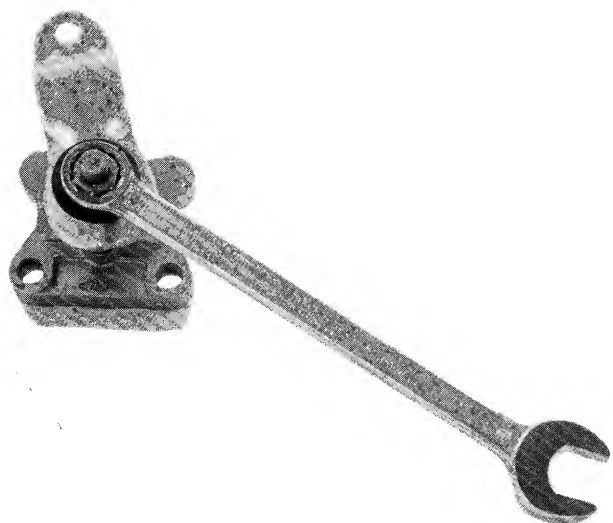

FIGURE 14. BRAKE ADJUSTMENT
7. Place the PTO Lever in the disengaged position. See Figure 14. The engine will not start unless the PTO Lever is disengaged.
To adjust the brake, tighten the locknut on the disc brake located on the left hand side of the transaxle. The brake should be tightened enough to stop the tractor when the pedal is depressed but still allow the disc to turn free between the brake pads when the pedal is released. See Figure 14.